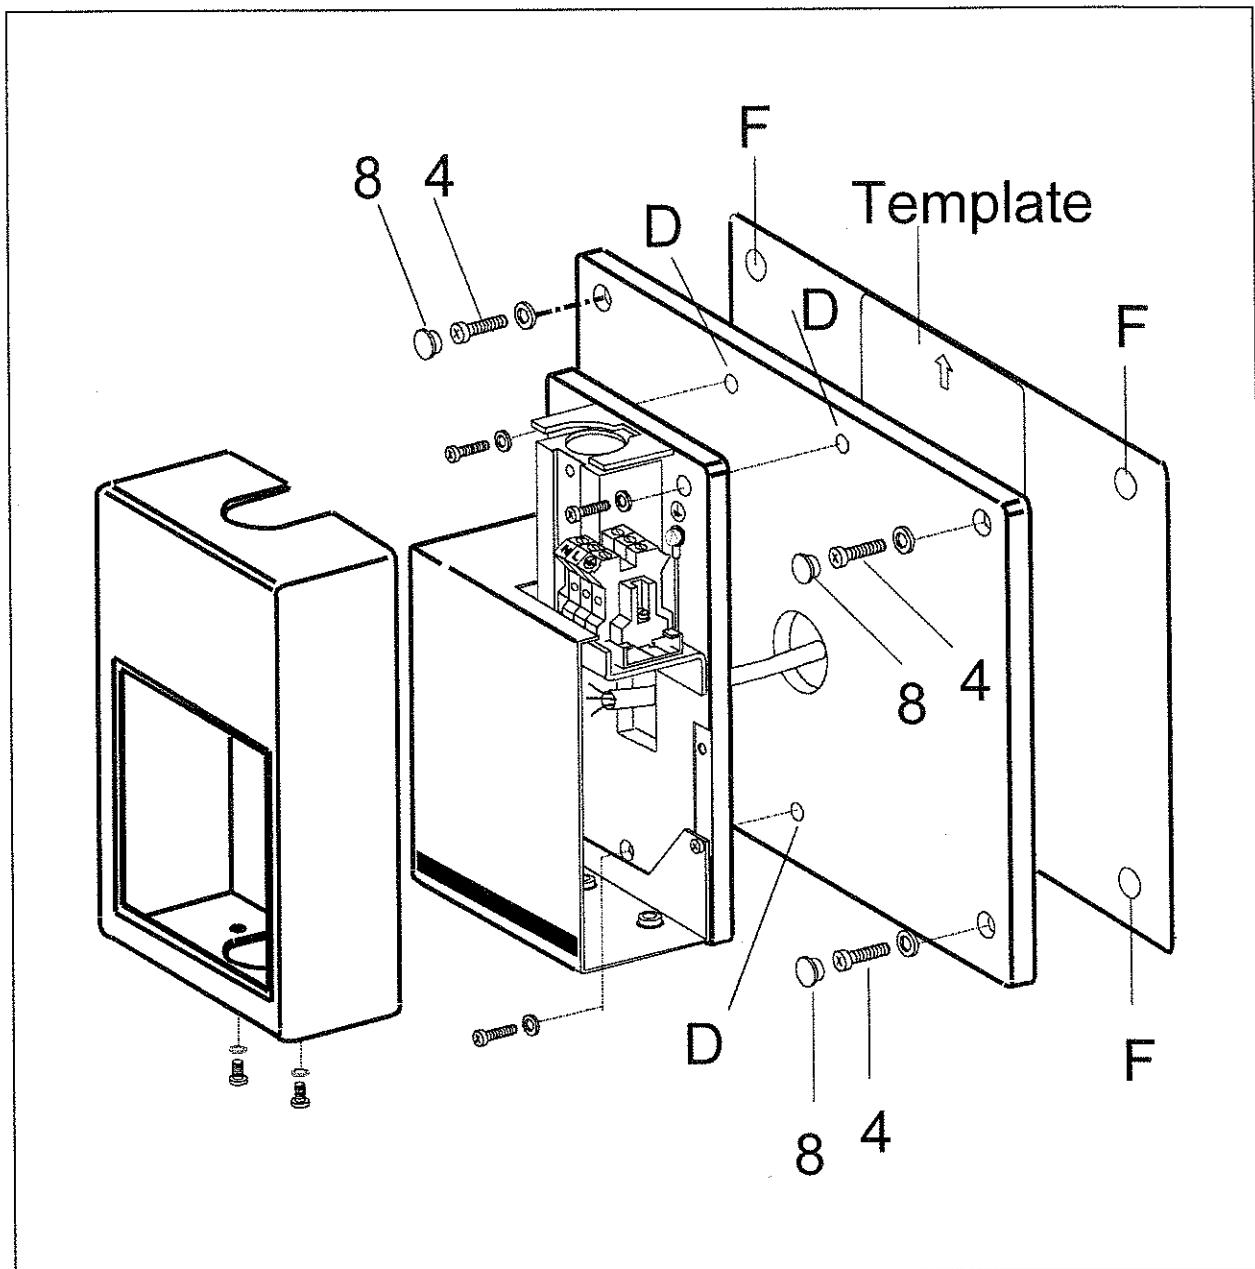

Figure 6 Securing the 16" on center wall plate
- c) With reference to Figure 6 on page 22, remove front casing from Plate/timer loosen the 2 screws on the bottom of the case.
- e) Fit plugs "8" (Figure 6, page 22) to screws "4" and secure the Plate with X-Ray Apparatus mounting to the 16" on center wall plate (holes "D" Figure 6). With a spirit level check that top of X-Ray apparatus mounting is perfectly leveled.